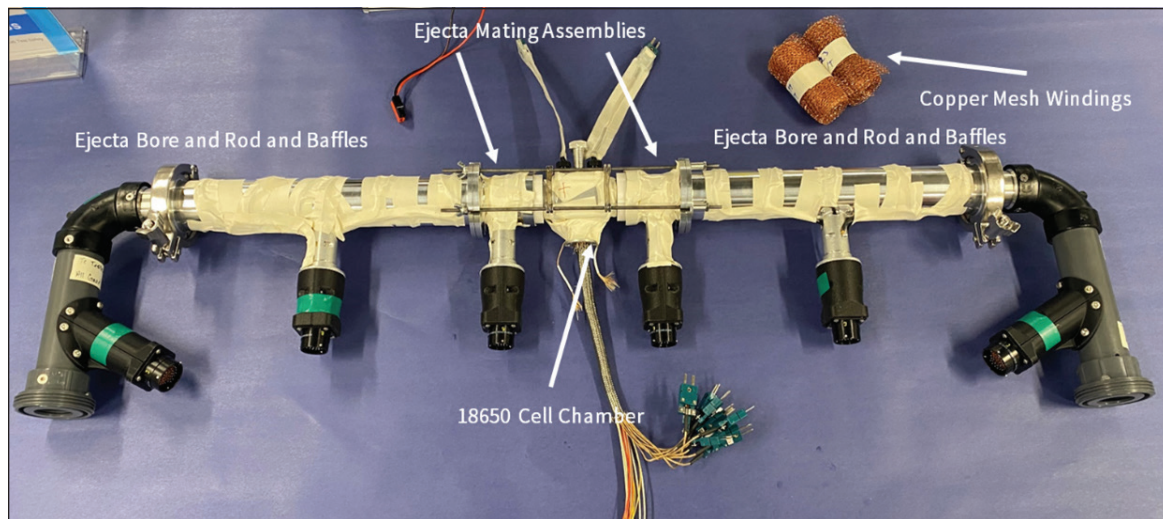

Figure 6: Photograph of an FTTC apparatus equipped with a 18650 cell chamber in the center of the device
are located downstream of the ejecta mating and are designed to extract sensible energy from the vent gases by creating a tortuous flow path encompassing (1) a series of aluminum baffles and (2) copper mesh windings. Figure 6 shows a photograph of an FTTC equipped with a 18650 cell chamber. Note the two copper mesh windings prior to installation in the FTTC.